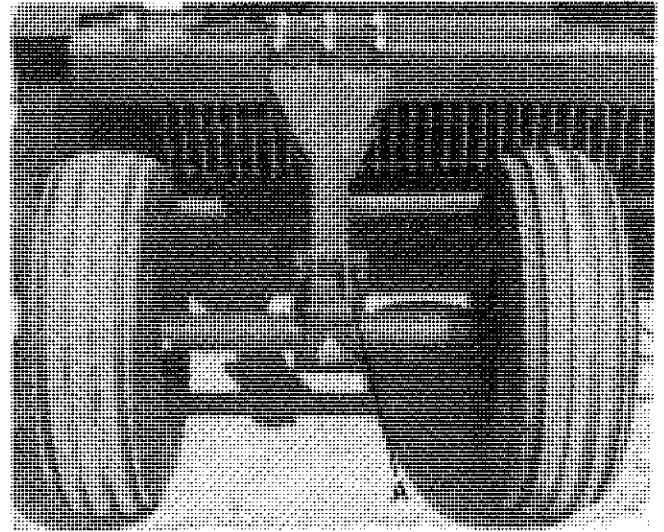

FIGURE 37 - OSCILLATING CARRIER WHEEL
Raise the rear frame bar with a jack or hoist. Use figure 9, page 11, to determine settings for carrier wheels. It is recommended that the left carrier wheel be set to run in the far left dug row. The left wheels may also be set to run straddling the dug rows, depending on field conditions. Install wheels, with valve stems *in* for 22" and 24" row spacing, and *out* for 28" and 30" row spacing. If the wheel setting desired is different than figure 9, page 11, add or subtract the appropriate half row spacing from the dimension given. Position the left carrier wheels first. Adjust height of carrier wheels by moving spindle support bracket (A) so machine runs parallel to ground at digging depth (2" to 3-1/2") (see figure 37).
Now position the right carrier wheels according to figure 9, page 11. If the wheel setting desired is different, add or subtract the appropriate half row spacing from the dimension given. Adjust height of carrier wheels by moving spindle support bracket (A) so the machine runs parallel to the ground at digging depth (2" to 3-1/2") (see figure 37). For steerable wheel assembly see figure 10, page 12.